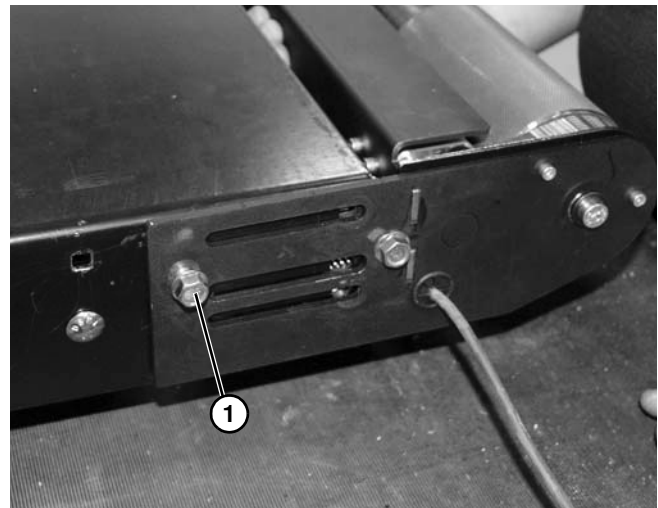

Figure 140
3. Remove screw (**Figure 140, item 1**) on each side of conveyor.